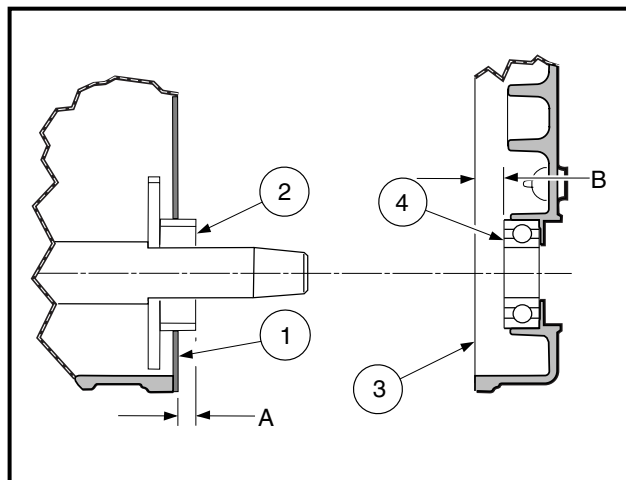

Figure 2-93 Determine Crankshaft Shim Size
1. With the gasket installed on the crankcase, measure from the gasket surface (1) to the helical gear surface (2). Record measurement (A) (**Figure 2-93, Page 2-41**).
2. Measure from the crankcase cover (3) mounting face to the crankshaft bearing inner end (4). Record measurement (B) (**Figure 2-93, Page 2-41**).